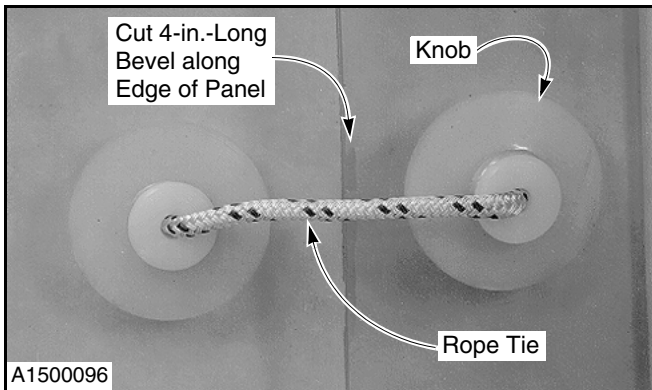

Figure 62
13. To prevent the Puralon panels from cutting into the rope ties as the door is opened and closed, cut (shave) a slight bevel, about 4 in. long, along the edge of each panel where it makes contact with each rope tie. (See Figure 62.)